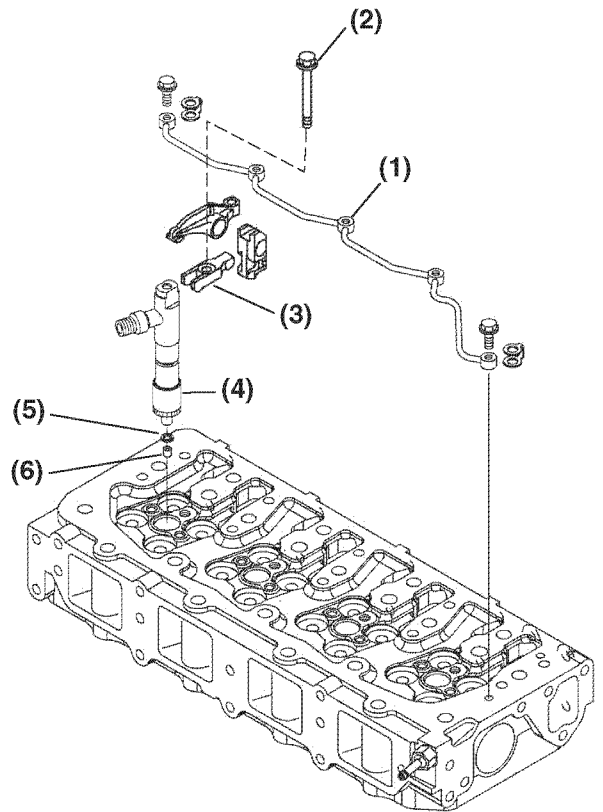

Figure 7-48
3. Remove the injector return line (**Figure 7-48, (1)**). Be careful not to bend the line.
4. Remove the fuel injector mounting clamp bolts (**Figure 7-48, (2)**). Lift the injector mounting clamps (**Figure 7-48, (3)**) away from injector.
5. Remove the fuel injector (**Figure 7-48, (4)**) from the cylinder head.
6. Remove the injector nozzle protector (**Figure 7-48, (5)**) and seat (**Figure 7-48, (6)**) from the cylinder head. Discard both items.